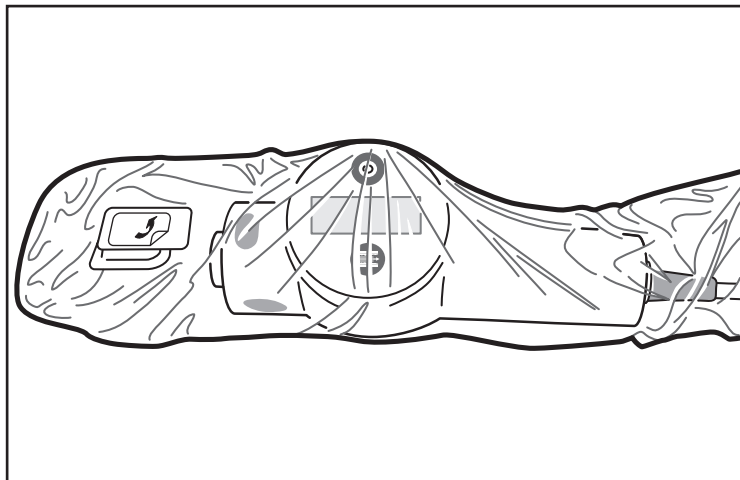

Figure 6. Positioned Bag
7. To position the bag, stop advancing the MDU5 PLUS Motordrive Unit into the bag as soon as a snug fit is obtained. The sterile operator does not need to advance the MDU5 PLUS Motordrive Unit all the way to the bag's faceplate. It is normal to have space between the nose of the MDU5 PLUS Motordrive Unit and the faceplate on the bag (Figure 6).